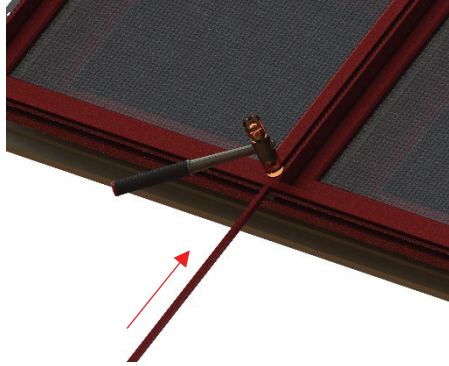

Fig. 5
- Install the mull key about 2" into the slots and hammer flush with rubber hammer. (Fig. 5)